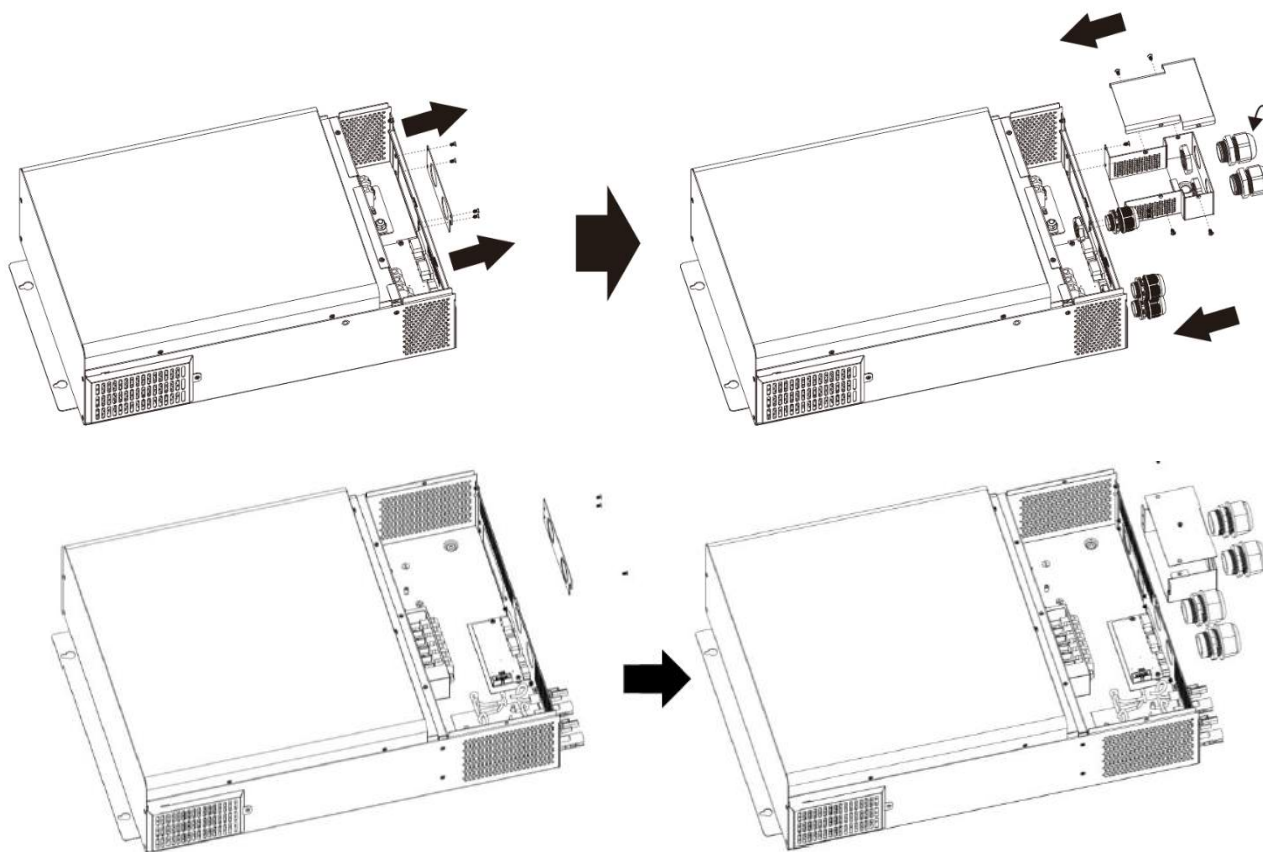

Fig. 3.1: Installation of cable glands and battery wiring extension box (PSW-H-3KW-120/24V and PSW-H-6.5KW-120/48V)
3. Install the 5 (PSW-H-3KW-120/24V, **Fig. 3.1**, right) or 4 (PSW-H-5KW-120/48V and PSW-H-8KW-230/48V, **Fig. 3.2**) included cable glands.